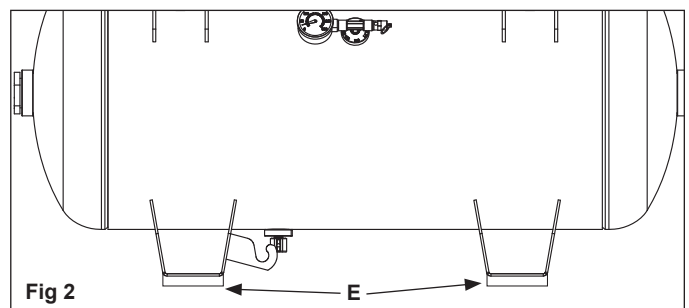

Fig 2
**⚠ WARNING** To avoid personal injury, always shut off the gasoline engine and relieve all air pressure from the system before performing any service on the air compressor. Do not use the unit with the shrouds or belt guard removed. Serious injury could occur from contact with moving parts. Hot surfaces. Risk of burn. Pump head, and surrounding parts are very hot, do not touch (see the Hot Surfaces identified in Fig. 2). Allow compressor to cool prior to servicing.